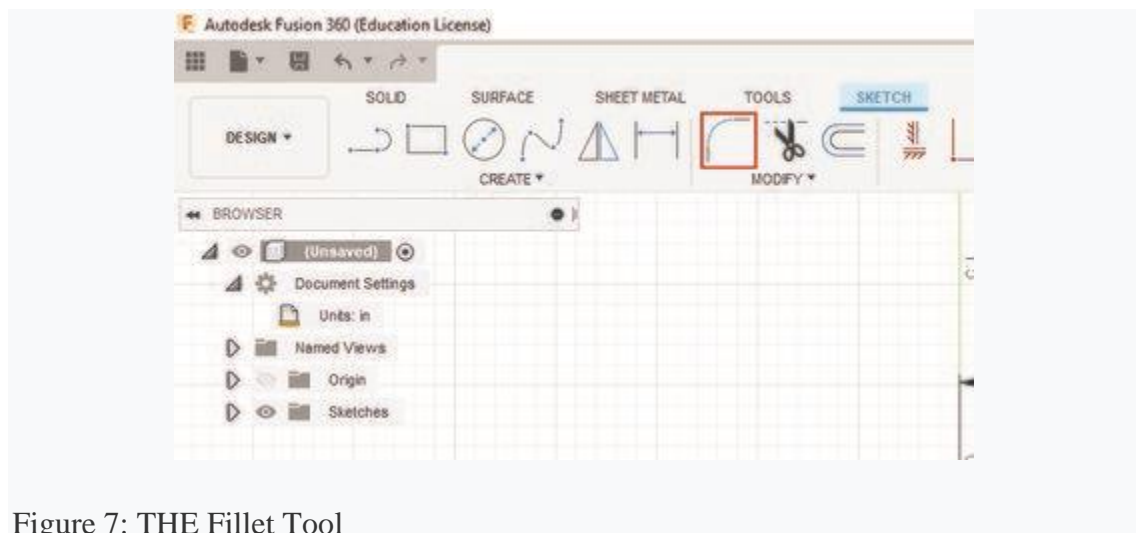

Figure 7: THE Fillet Tool
- i. Select the fillet tool from the “Sketch” section of the toolbar (do not use the one under "Modify"). (Figure 7)